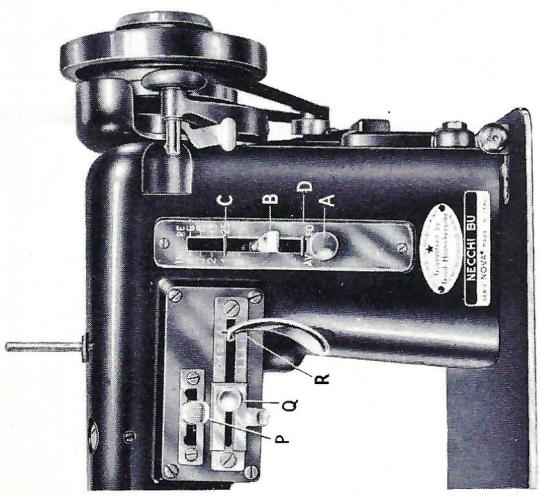

Fig. 20
(See Figure 20 for reference.)
a. Bring lever "B" (Fig. 20) down as far as lower indicator "D", to sew forward.